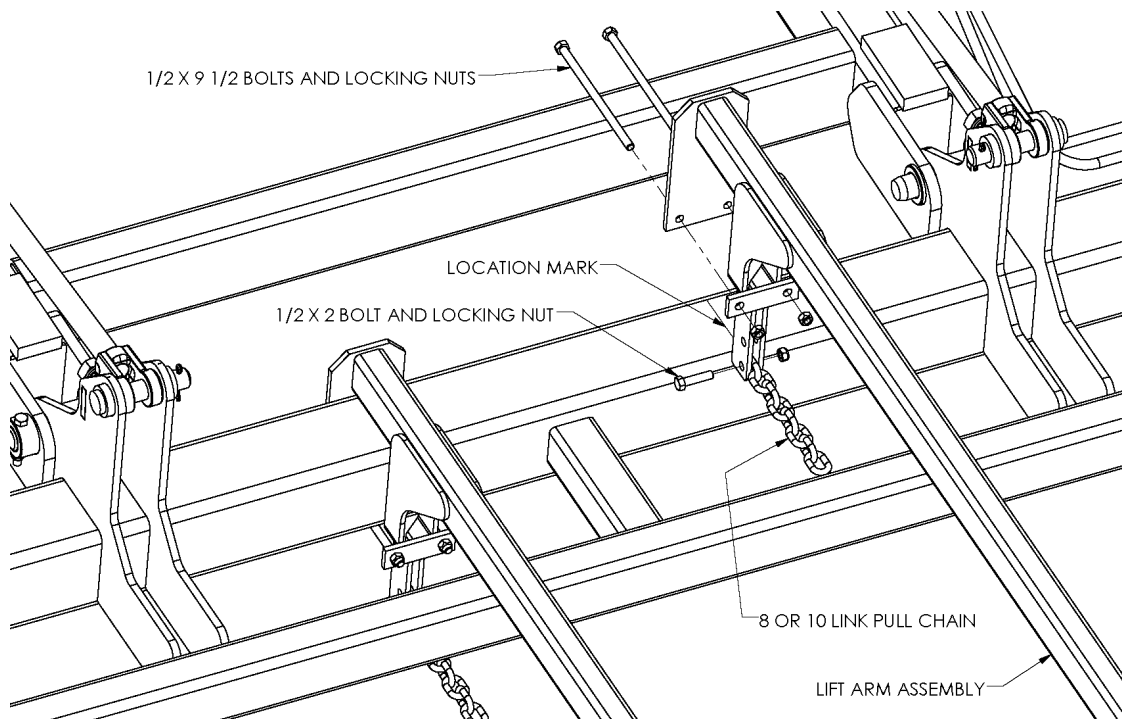

Figure 13
2. Center a lift arm on each of these marks and secure using two 1/2" x 9 1/2" bolts, lock washers, and hex nuts for each lift arm. Refer to Figure 13.
3. Bolt an 8 or 10-link pull chain in between each of the lift arm pull points. (10-link for 8-bar harrow sections; 8-link for all other configurations.) Use 1/2" x 2" bolts, lock washers, and hex nuts. Refer to Figure 13.